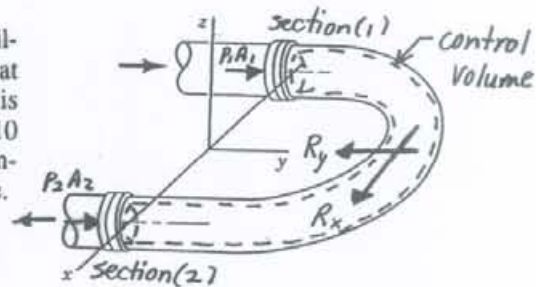

FIGURE P5.40
5.40 Water flows through a horizontal, 180° pipe bend as is illustrated in Fig. P5.40. The flow cross section area is constant at a value of 9000 mm2. The flow velocity everywhere in the bend is 15 m/s. The pressures at the entrance and exit of the bend are 210 and 165 kPa, respectively. Calculate the horizontal (x and y) components of the anchoring force needed to hold the bend in place.